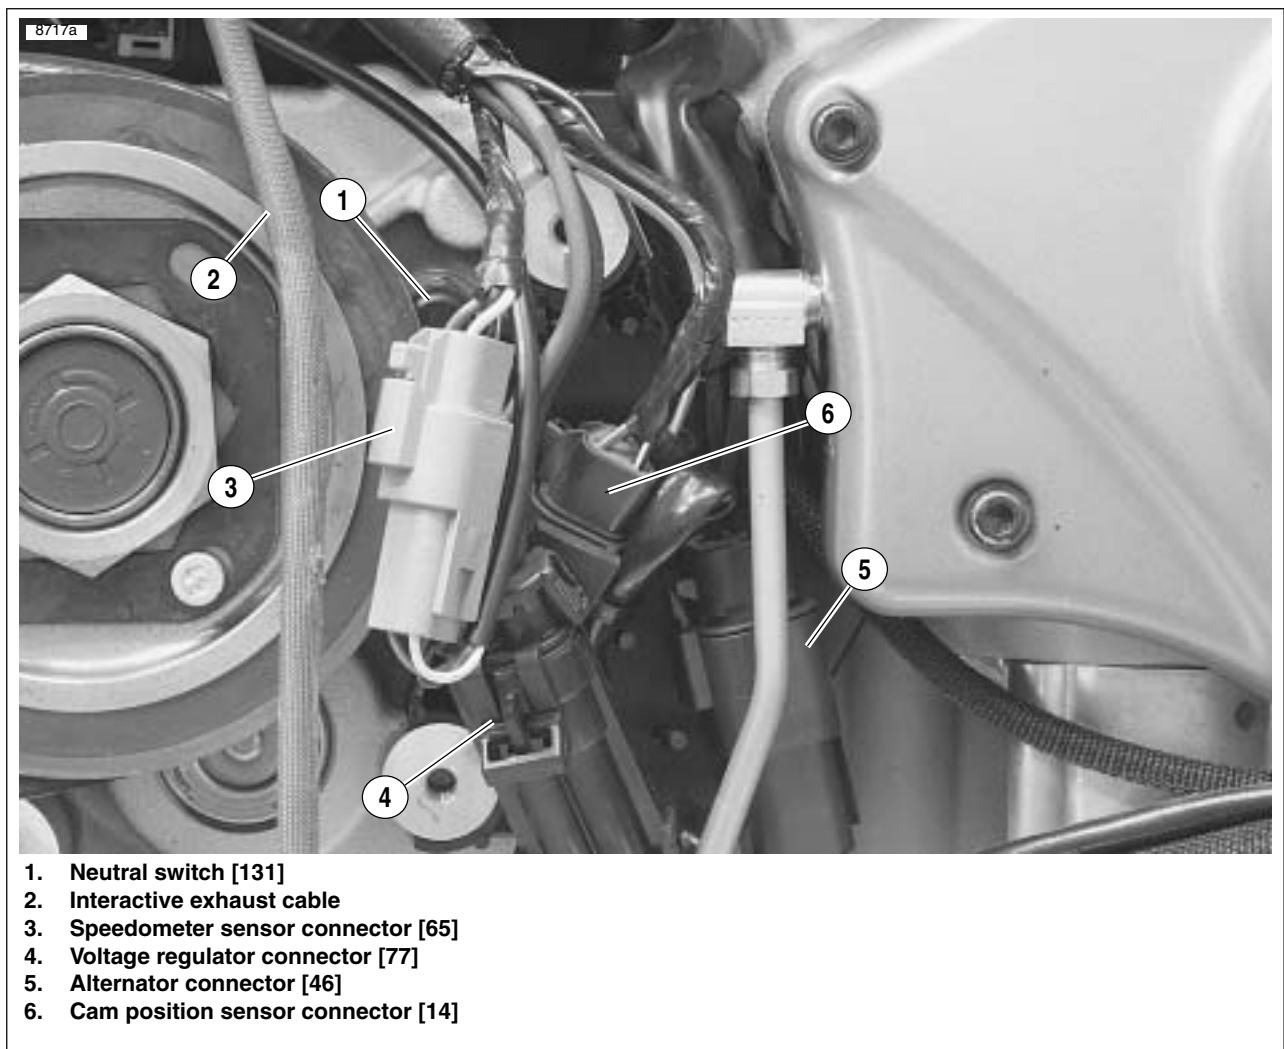

Figure 3-23. Electrical Connectors
- c. See Figure 3-23. Separate alternator connector [46] and voltage regulator connector [77].
29. See Figure 3-23. Disconnect electrical components: